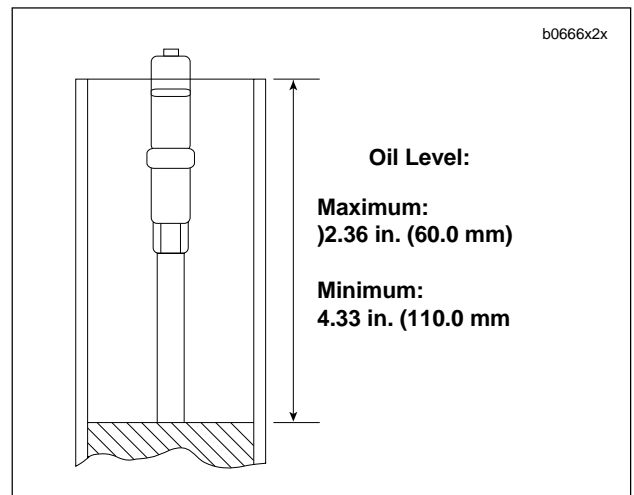

Figure 2-53. Oil Level Measurement
13. Place the centering plate (15) onto the damper (14) and insert the assembly into the slide pipe (17).
14. Place the piston rod and outer tube (8) in the full bottomed position.
15. See Figure 2-53. Pour the recommended fork oil into the slide pipe to a level between the maximum and minimum limits. Additional information on setting oil levels can be found under 1.15 FRONT FORK.